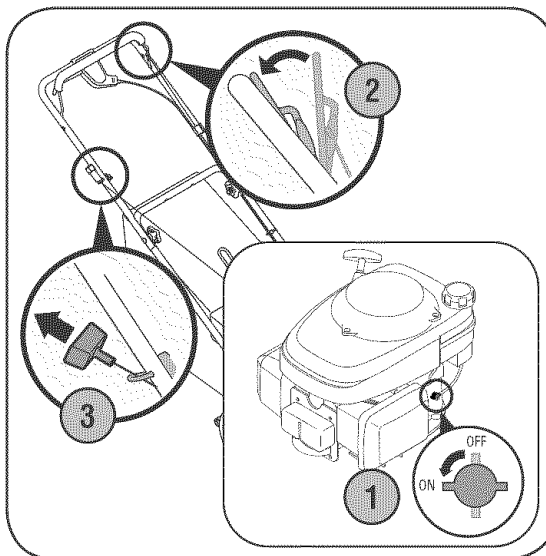

Figure 2
1. Place the fuel valve lever found on the left side of the engine into the ON position. See Figure 2 inset.
2. Standing behind the mower, squeeze the blade control against upper handle. See Figure 2.
3. Holding these two handles together firmly, grasp recoil starter handle and pull rope out with a rapid, continuous, full arm stroke. See Figure 2. Keeping a firm grip on the starter handle, let the rope rewind slowly. Repeat until engine cranks. Let the rope rewind each time slowly.